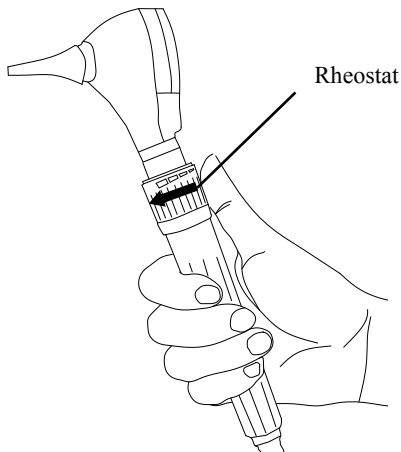

Fig.4
- 2.2.4 Rotate the rheostat section to select the desired brightness. See from Fig.4.